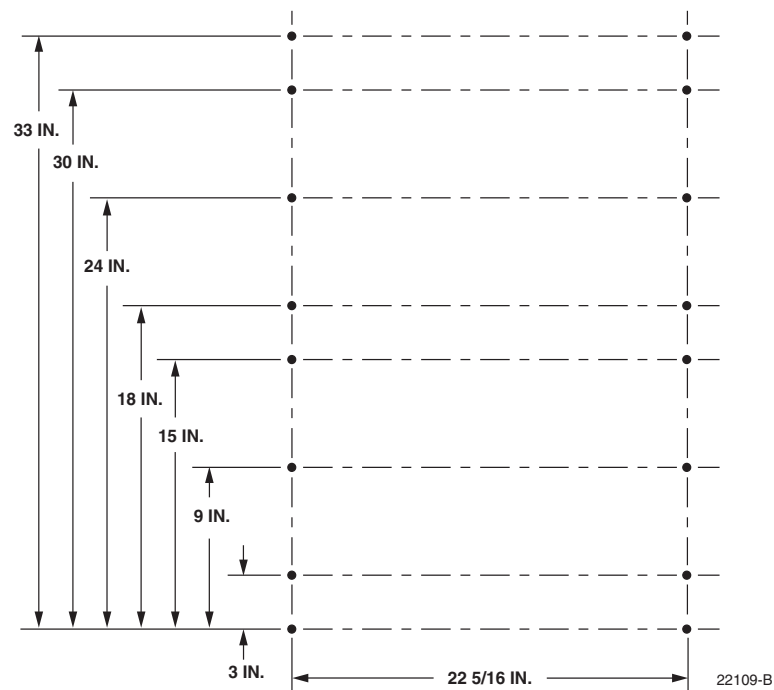

Figure 11. Hole Locations for Wall-Mount Installations
3. Using Figure 11 as a guide, mark the location of the cabinet mounting holes on the plywood backer.